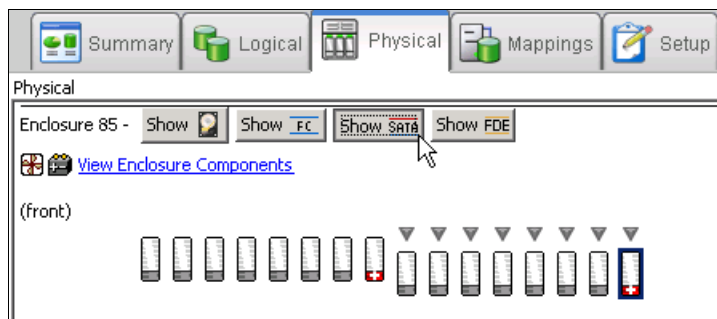

Figure 3-53 SATA drives protected with hot spare
3. Because in this example we have more than one type, we repeat the previous steps to create a second hot spare drive for the SATA disk drives, which are still unprotected. The operation finishes and the window shown in Figure 3-53, in the physical view, opens. Click the **Show SATA** button.